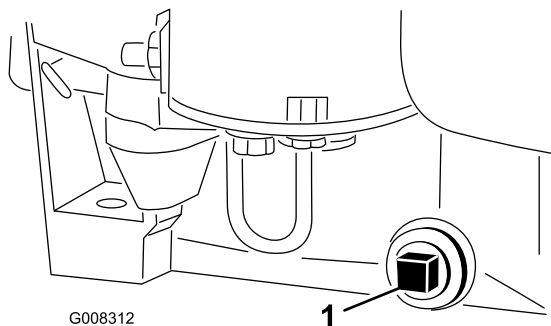

Figure 25
9. Remove the oil drain plug to allow oil to drain (Figure 25).